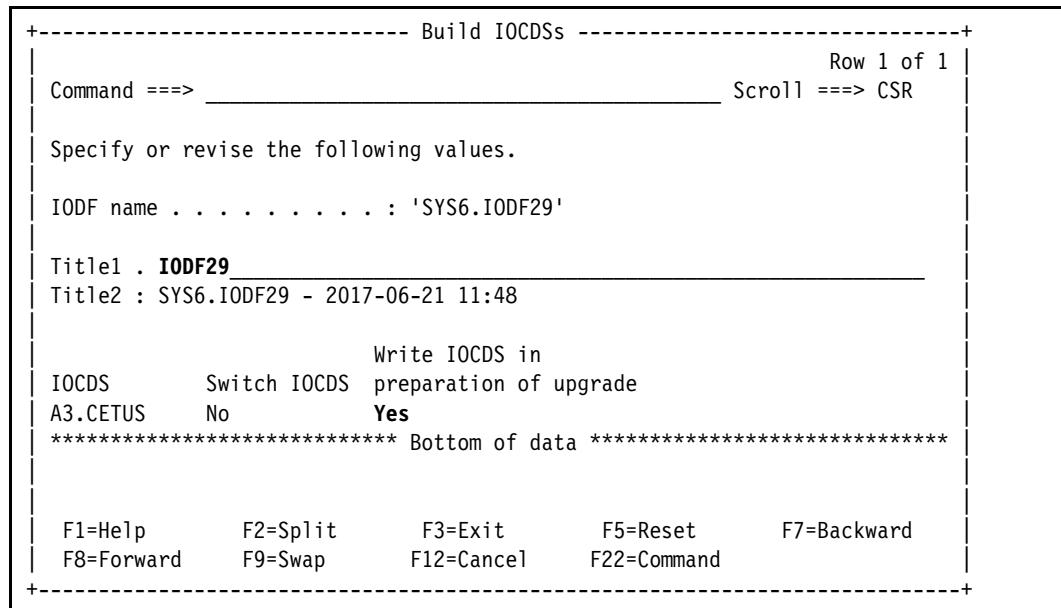

Figure 5-12 Build IOCDSSs: Verifying IODF
7. The Build IOCDSSs panel opens (Figure 5-12). Verify that all the information is correct. Complete the Title1 field, set **Write IOCDs in preparation of upgrade** to Yes, and press **Enter**.